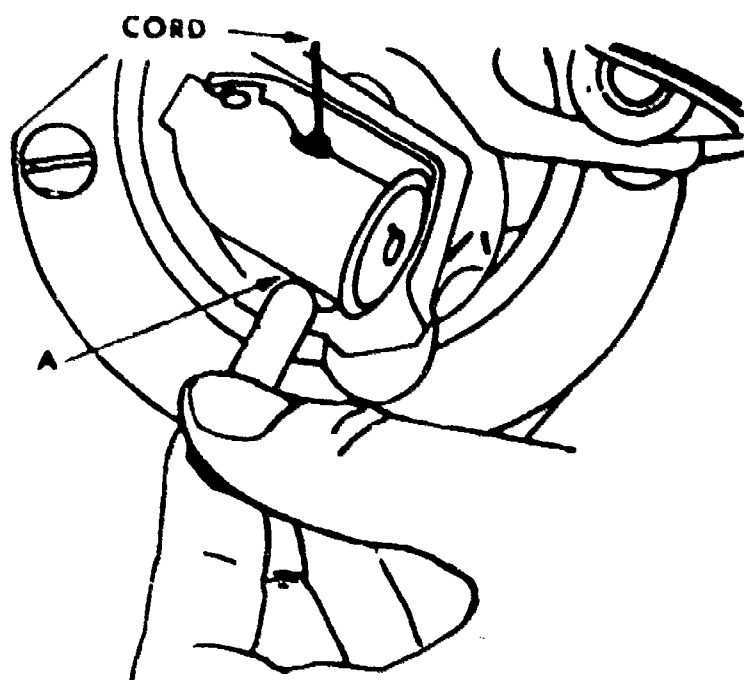

Figure 3. Removing the Bobbin.
c. Insert the small end of the shuttle cylinder opener in slot A, figure 3, in the spring latch between the shuttle cylinder.